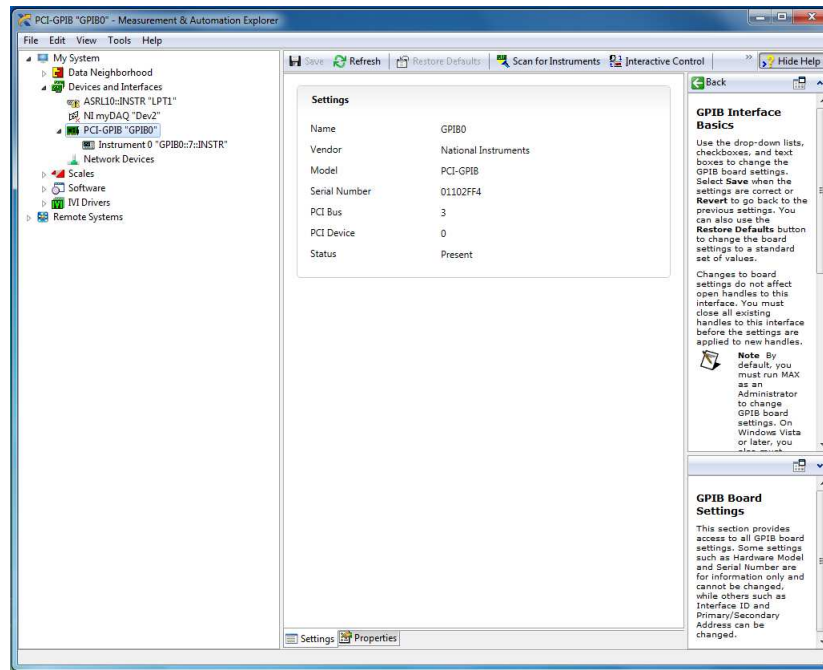

Figure 1: NI MAX window
2. Find GPIB address for the parameter analyzer: Double click NI Max icon on your desktop, by referring to the drop-down list shown on the left side of the window as in Figure 1, you could identify GBIP address of the parameter analyzer from the middle number of the string which reads "GPIB0::7::INSTR" (so the address here is 7).